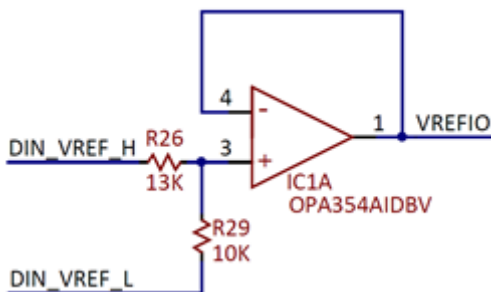

Figure 10 VREFIO reference.
- The reference voltage VREFIO is generated as in Figure 10. DIN_VREF_H and DIN_VREF_L are connected to FPGA pins in bank 1. Bank1 is supplied at VCCIO. VREFIO can be set at: